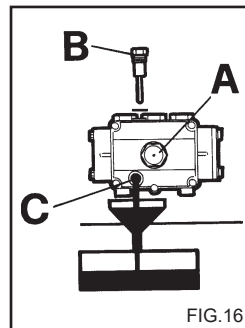

FIG.16
- 2) Unscrew the cap with the dipstick (fig. 16).